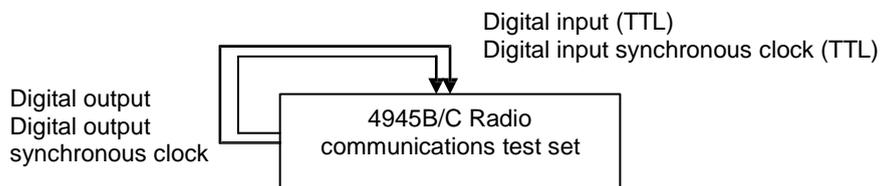

Fig. 6-17 Testing digital sequence generation and BER RX characteristics
- 1) As shown in Fig. 6-17, connect the digital output and digital input, digital output synchronous clock and digital input synchronous clock on the rear panel of 4945B/C;